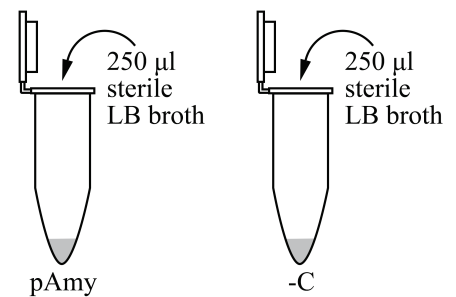

Fig. 14
15. Using a P1000 micropipette and new sterile tips[#], add 250 µl sterile LB broth to each tube (Fig. 14). Mix the contents by finger flicking.